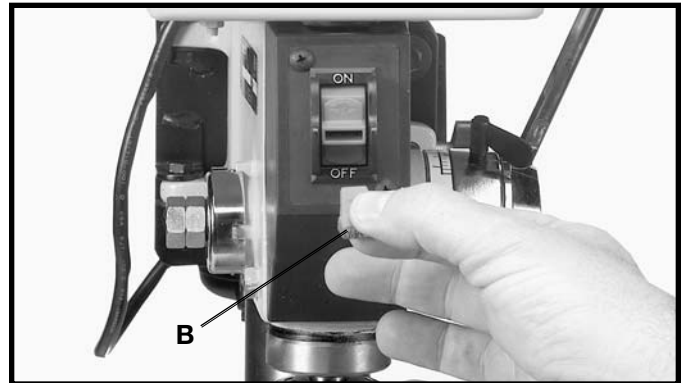

Fig. 22
IMPORTANT: When the tool is not in use, the switch should be locked in the “OFF” position to prevent unauthorized use. This can be done by grasping the switch toggle (B) and pulling it out of the switch, as shown in Fig. 22. With the switch toggle (B) removed, the switch will not operate. However, should the switch toggle be removed while the drill press is operating, the switch can be turned “OFF” once, but cannot be restarted without inserting the switch toggle (B).